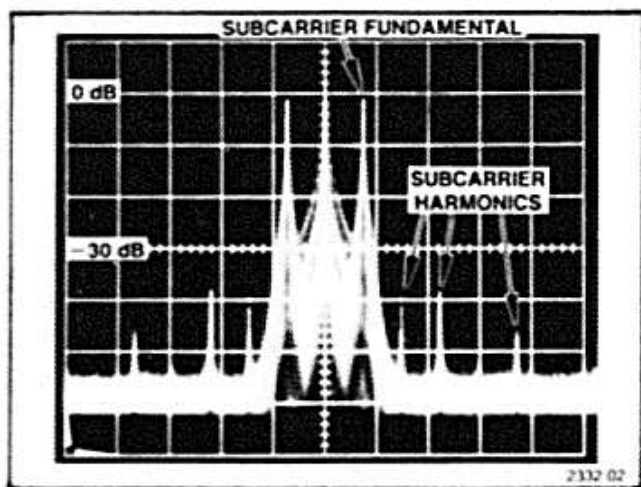

Fig. 4-2. Chrominance Bandpass Filter vectorscope display.
d. CHECK—for straight lines connecting the dots on the vectorscope display, similar to that shown in Fig 4-2.